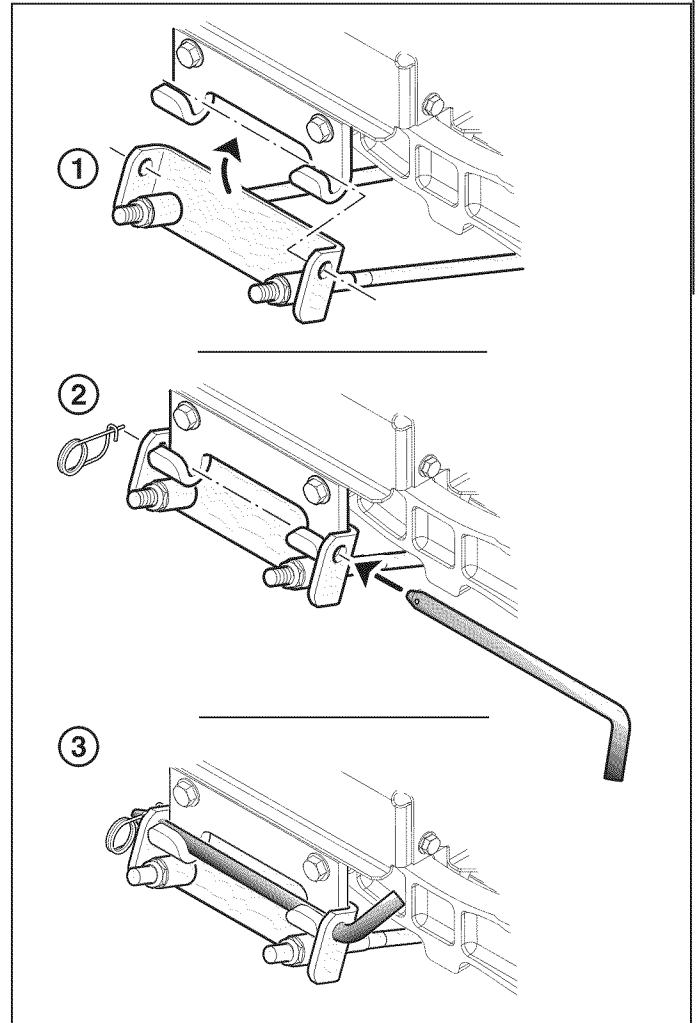

Figure 19
2. Slide mower deck under right side of tractor so that mower hanger is aligned with the tractor hitch bracket (see 1-3, Figure 19).